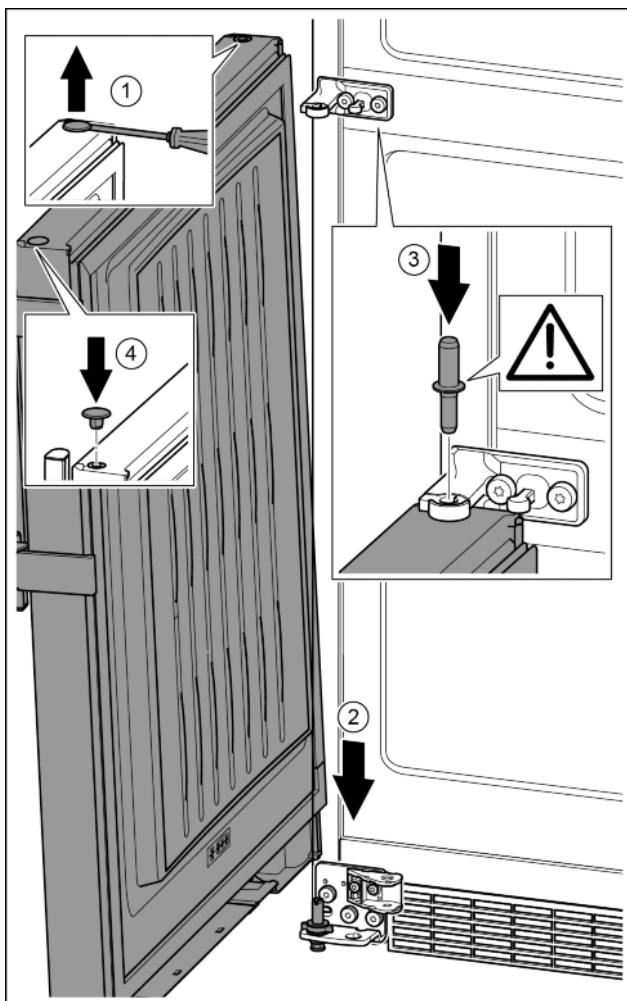

Fig. 32
- Carefully lift up the plugs and remove them with a slotted screwdriver. Fig. 32 (1)
- Position the door from above onto the lower bearing bolts. Fig. 32 (2)
- Insert the middle bearing bolt through the middle bearing bracket into the lower door. Ensure here that the catch mechanism points backwards. Fig. 32 (3)
- Insert the plugs again on the other side of the door. Fig. 32 (4)